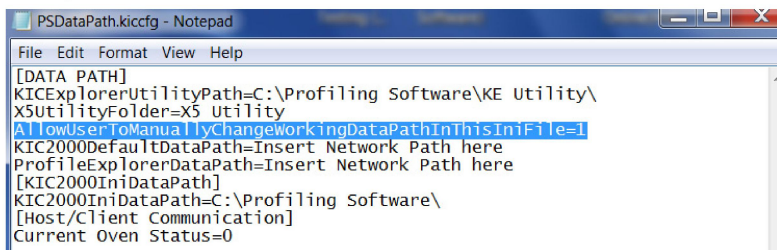

Figure 139
3. Change the line AllowUserToManuallyChangeWorkingDataPathInThisIniFile=0 to the value =1. See Figure 139.